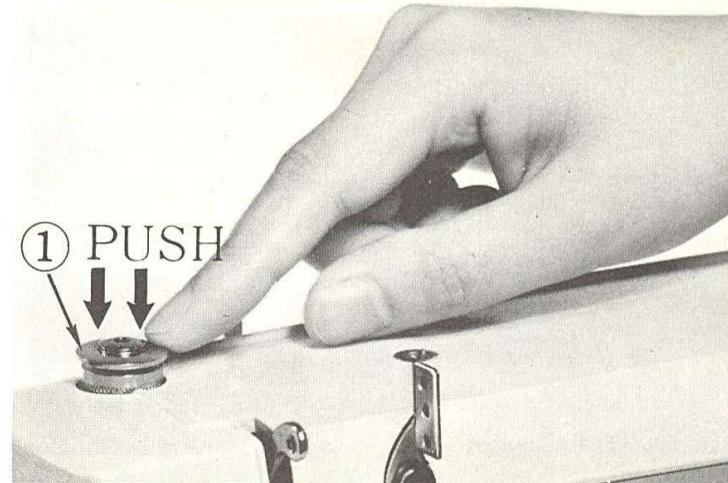
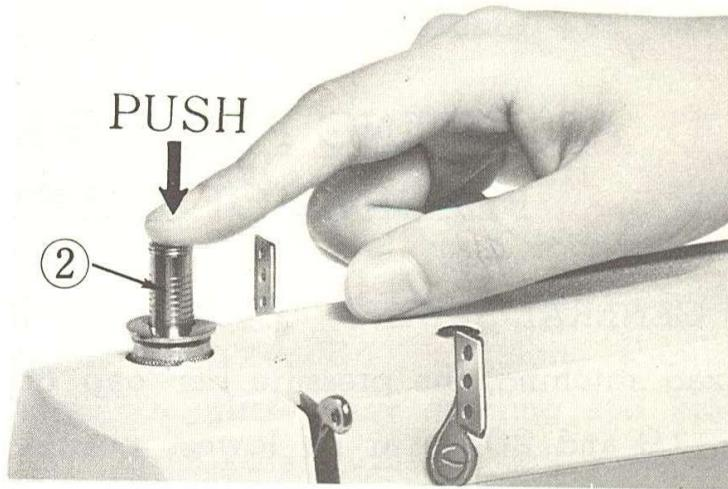

Fig. 19
Fig. 20
GENERAL SEWING. Usually for straight sewing and zigzag stitching, the pressure bar cap or darner release, Fig. 19 and 20, is at its lowest position and the drop feed lever is seted to "UP".
Release all the way by pressing the snap lock, (①, Fig. 19) and then press cap (②, Fig. 20) down again to halfway spot.
In order to move the fabric freely in any direction for darning, mending and certain kinds of free-hand embroidery, release the cap (②, Fig. 20) completely by pressing down on the snap lock, (①, Fig. 19). Set the lever to "DOWN", which drops the feed well below the needle plate. To return feed to normal, set to "UP", push cap down (Fig. 20).